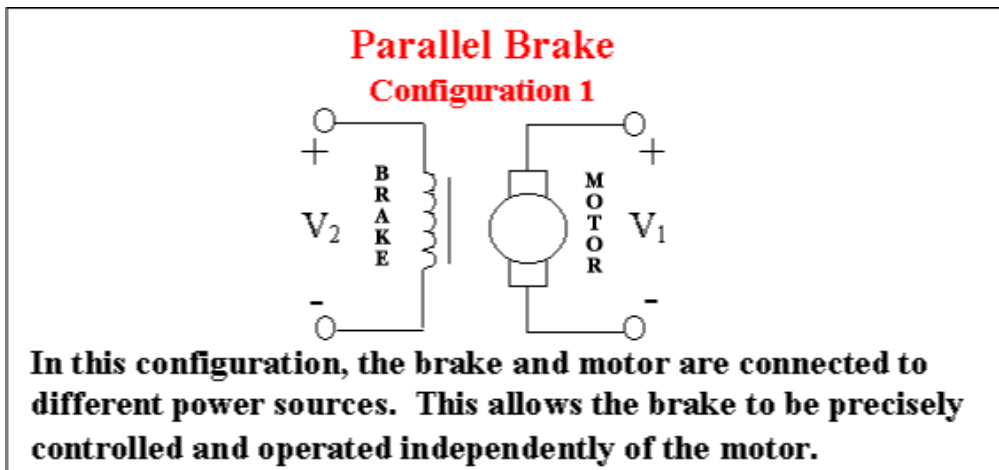

Figure 1
- a. Please see Figures 1 and 2: “Wiring Schematics: Parallel Brake on page 4 for different configurations.
- i. Two (2) power sources are needed (one for the motor and one for the brake).
- iii. Will the configuration be used on a system with an aiding load condition (i.e., Lowering a heavy door, or any other gravity assisted application)? In this example, the aiding load could continue driving the motor after power is removed from the motor. This may cause the motor to generate a current keeping the brake coil active and preventing the brake from engaging. Best recommendation for this scenario is Figure 1 on "Wiring Schematics," page 4.